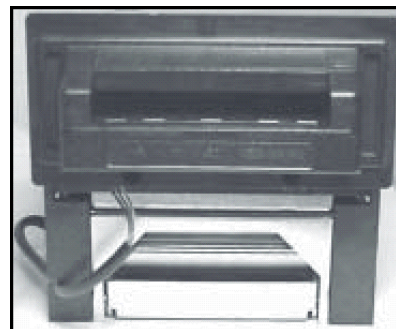

Figure 5
9. Replace the transport in the frame (Figure 5).